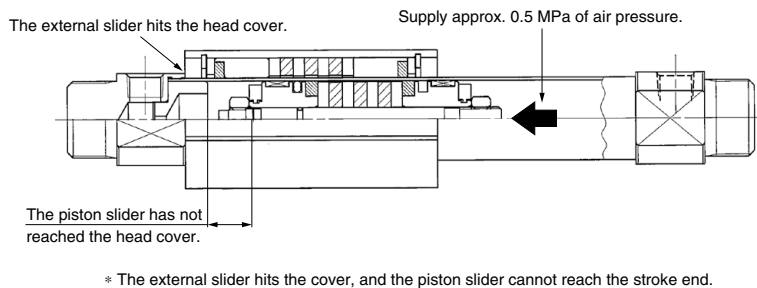

Fig. 9 Slider fitting procedure
- (11) Fit the external slider and piston slider into place inside the cylinder tube. (Refer to Fig. 9 on page 416-3 for the fitting procedure.)